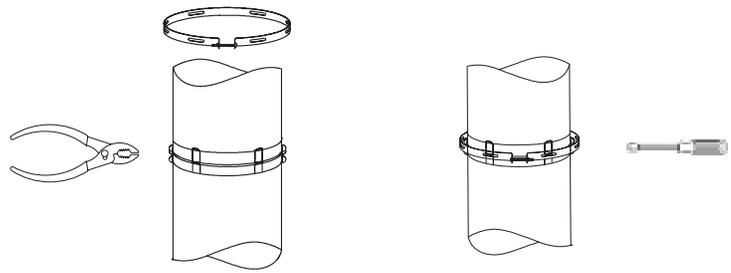

Figure 5
3. Position the Locking Strap slots over the Tabs, making sure each slot encompasses both Tabs. Tighten the Locking Strap with a 7/16" nut driver or socket. **CAUTION:** DO NOT over tighten the clamp, as it may cause the vent to collapse. (See Figure 5)